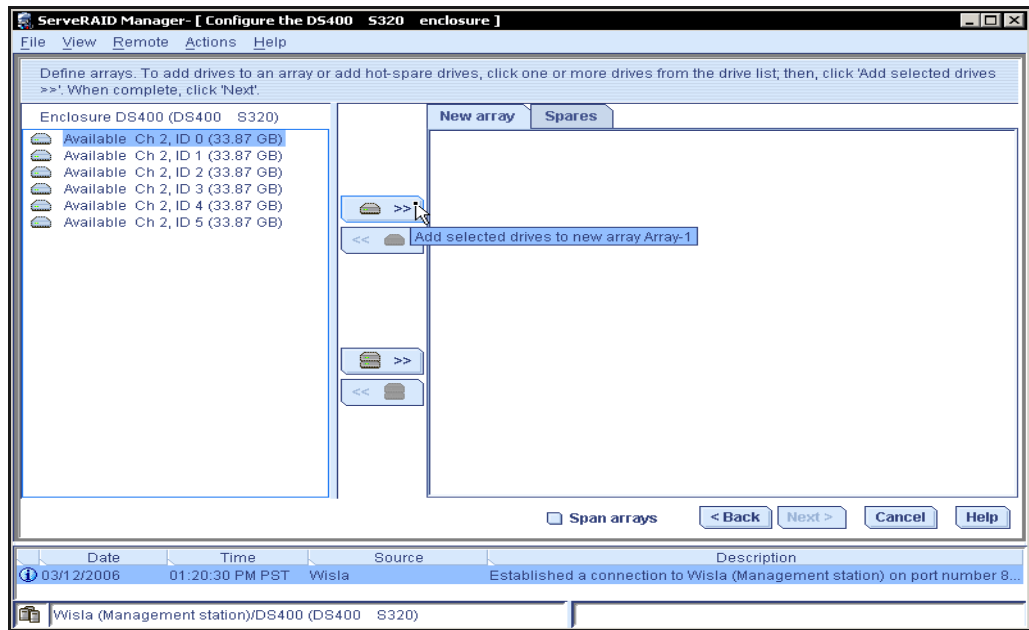

Figure 39 Drive selection
3. Select drives and add them to an array as shown in Figure 39.